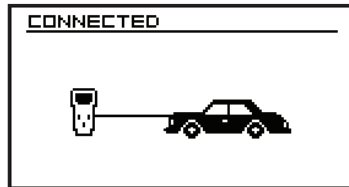

Fig.6
1. Power the CodeScout on. Make sure the vehicle is connected (Fig.6).